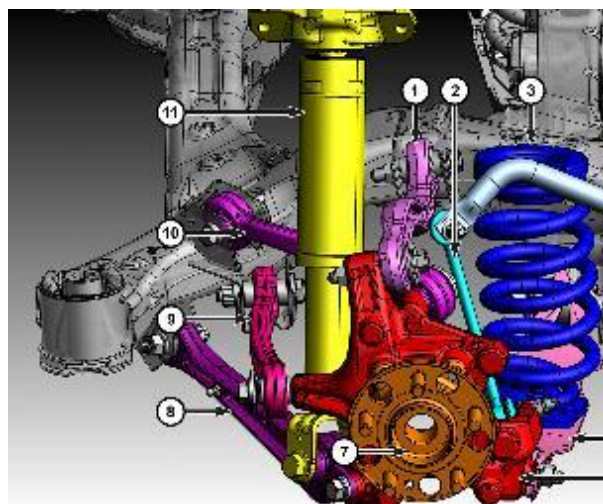

Figure 8 – Rear Suspension
9. Place a jack under the compression link (8) at the shock absorber end (Figure 8).